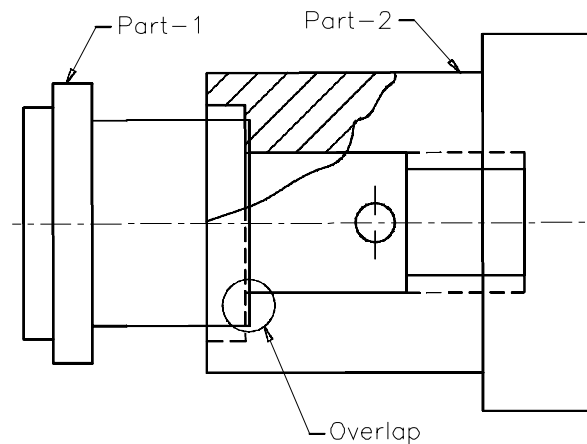

Figure 16-34 Assembly drawing after attaching Part-1 and Part-2
6. Xref the two drawings Part-1 and Part-2 so that the centers of the two drilled holes coincide. Notice the overlap as shown in Figure 16-34. Save the assembly drawing as ASSEM1.